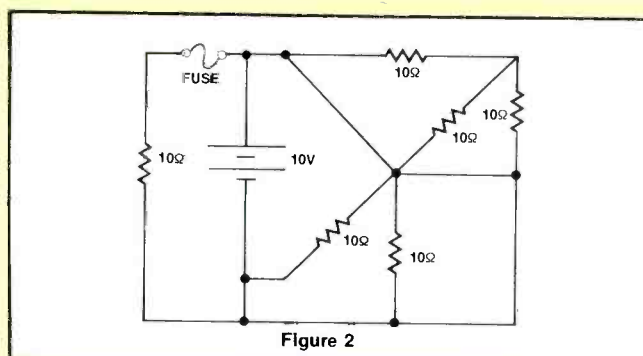

Figure 2
4. Rodney Lanyard decided to switch from the original manufacturer's circuit to the one he designed. (His version is shown in Figure 2.) However, he can't calculate the size of the fuse that should be used. Assuming the *rating* of the fuse is twice the actual current, what advice would you give to Rodney?